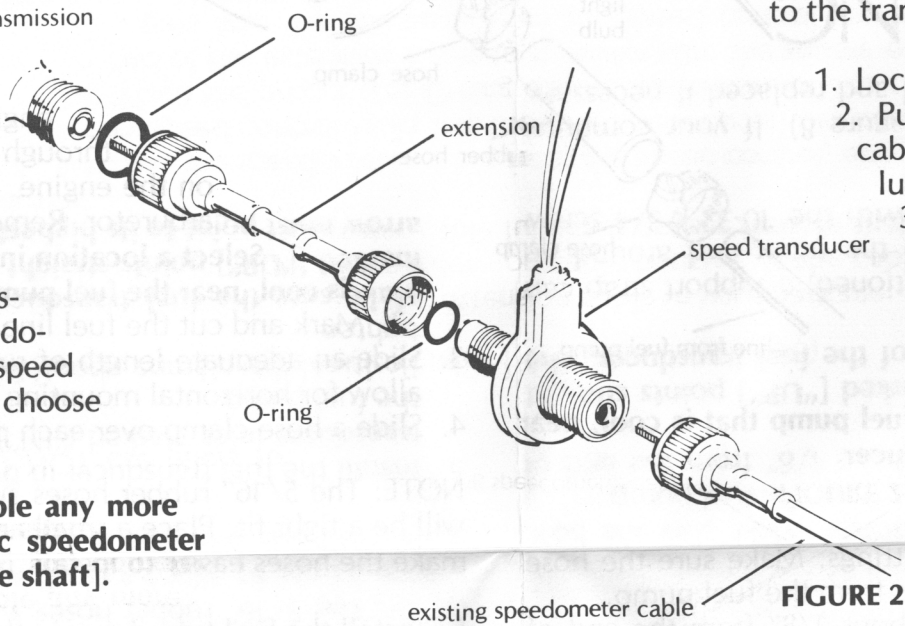

FIGURE 2
## • Installation At Transmission (Figure 2)
6. Place the large O-ring on the transmission and connect the extension cable and speed transducer to the transmission as shown in Figure 2.